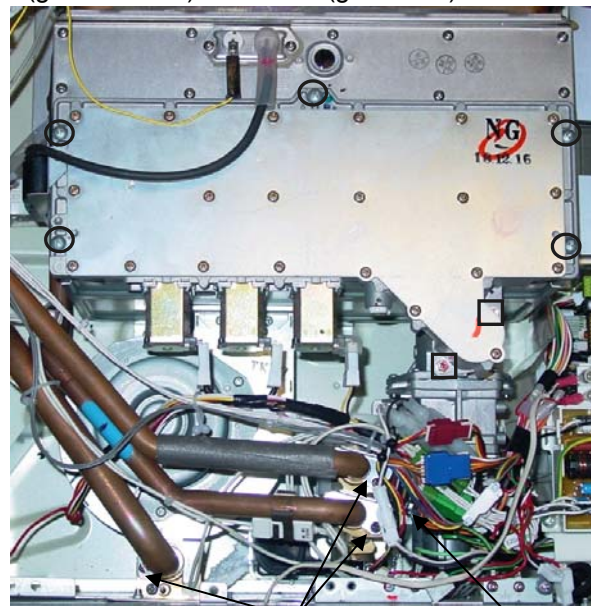

Figure 2
11. Remove the screw attaching the gas valve to the rear of the case. (Figure 2)